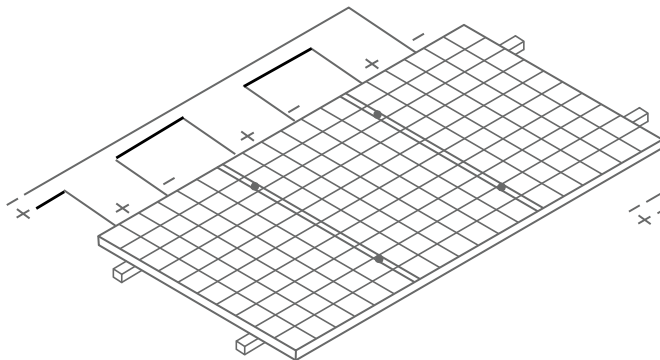

Figure 4 Connection in Series
- It is not allowed to use the Modules in different models in the same solar photovoltaic system. When the Modules are connected in series, the voltage of every string shall not be higher than the maximum voltage of the system (as shown in Figure 4). Reference equation of the maximum number of the Modules in serial connection: maximum system voltage of the module/ (1.25* open-circuit voltage).